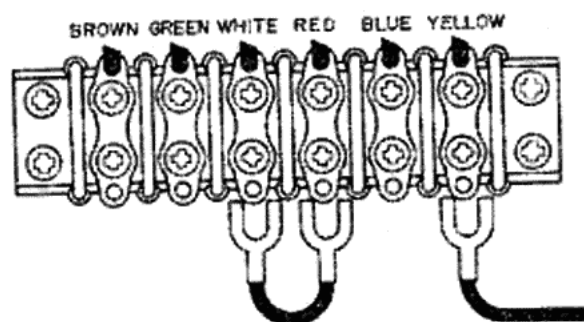

Figure 2. Voltage Conversion Chart
- Change the jumper wires as illustrated in Fig. 2 for the required AC voltage and replace the fuse as instructed.